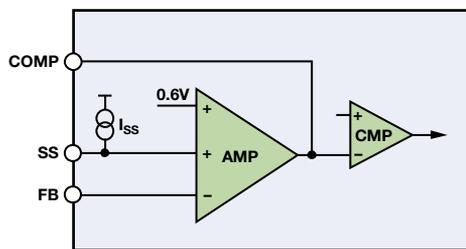

Figure 6. Soft start pin operation using the ADP2384.
Many general-purpose buck ICs include a soft start (SS) or tracking (TRK) pin. The SS pin minimizes start-up transients by slowly increasing the switching duty cycle at startup. The TRK pin allows the buck regulator to follow an independent voltage. These functions are often combined onto a single SS/TRK pin. In most cases, the error amplifier will compare the smallest of the SS, TRK, and FB voltages with the reference, as shown in Figure 6.